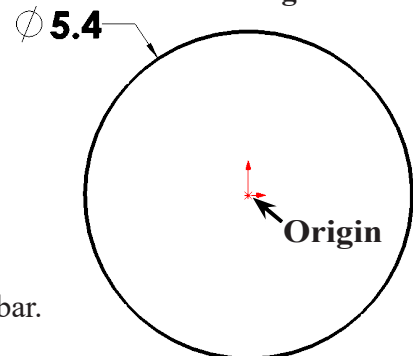

Fig. 2
Step 3. Click **Circle**  (S) on the Sketch toolbar.
Step 4. Sketch circle at Origin , **Fig. 2**.
Step 5. Click **Smart Dimension**  (S) on the Sketch toolbar.
Step 6. Dimension diameter **5.4**, **Fig. 2**.